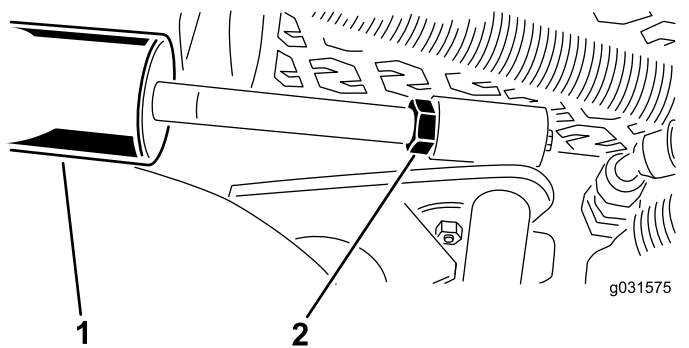

Figure 16
- A. Lower the cutting units and back off the jam nut on the cylinder (Figure 16).